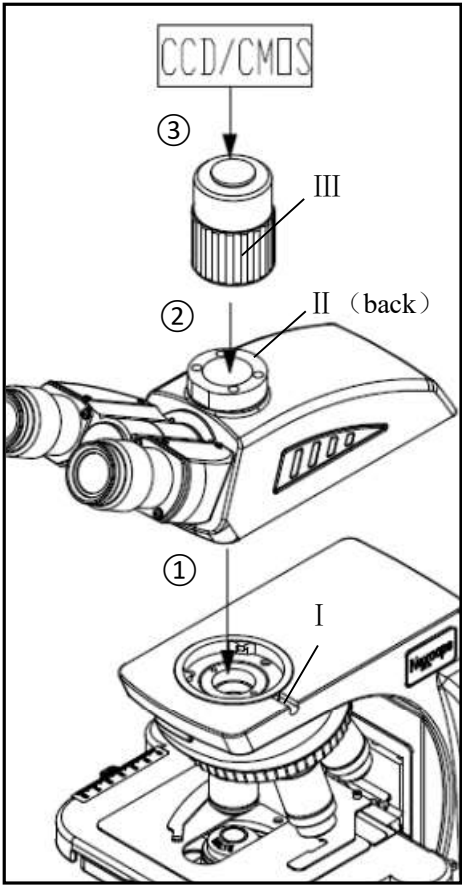

Fig.25
4.1 Installing Trinocular Viewing Head And Video Attachment (Fig.25)
- 1. Mount the trinocular viewing head according to the assembly path① in Fig.25 into the round dovetail of the microscope and tighten the screw I to fix the viewing head;
- 2. Mount the video attachment according to the assembly path② into the connecting seat of the trinocular viewing head and tighten the screw II;
- 3. Mount the thread interface of CCD or CMOS according to the path③ into the video attachment.